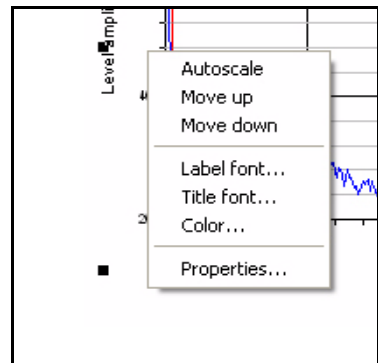

FIGURE 3-9 Y Axis Scaling Window
In this graph, the curves are cut-off by the top of the display. Autoranging the amplitude axis will correct this. Position the cursor over the scale of the amplitude (Y) axis, to the left of the graph, so that a vertical double headed arrow appears. Right click to open the window shown in FIGURE 3-9 .